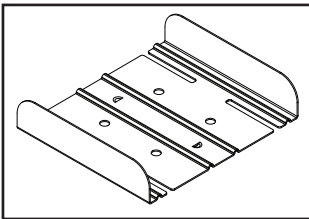

Fig. 5
- For connecting ST2 models, use row aligner shown in (Fig. 5.)